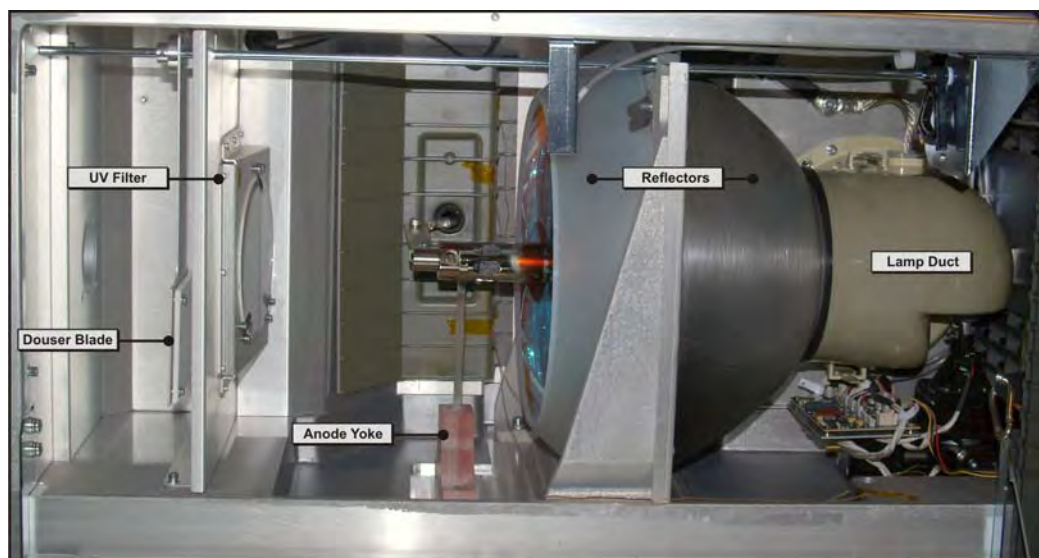

Figure 5-52 Front of Lamp Compartment
3. Using a 5mm hex key, remove the two screws and lock washers from the yoke base. **(Figure 5-52)**